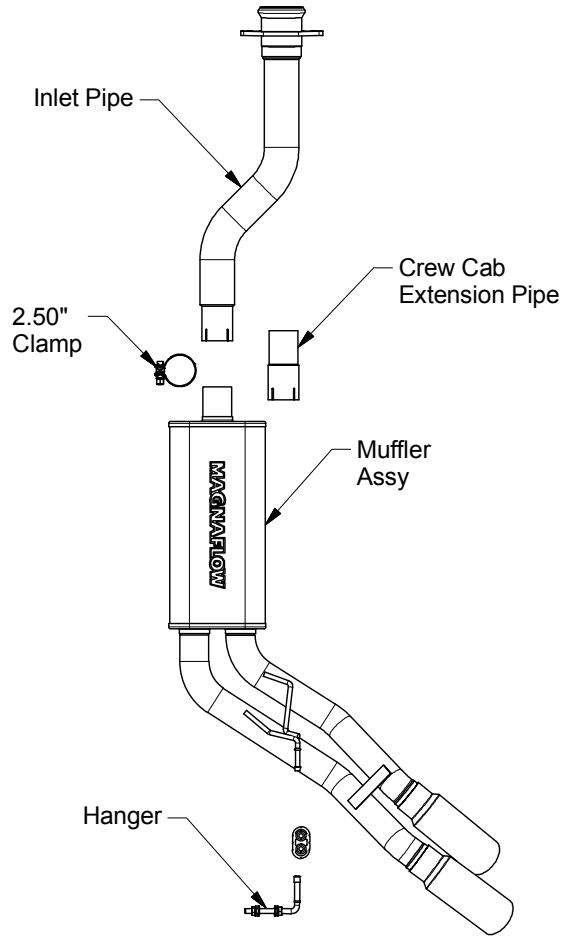

Fig 1.
Step 2: Install the new inlet pipe using the OEM fasteners and supplied flange. If you have a Crew Cab truck install the Extension Pipe using the supplied 2.50" Clamp. Install the threaded hanger and rubber insulator as shown in Fig 1, then Install the Muffler Assembly fitting the welded hangers into the rubber insulator and fasten it to the inlet pipe using the supplied 2.50" clamp. Leave all clamps and fasteners loose for final adjustment of the complete system. .